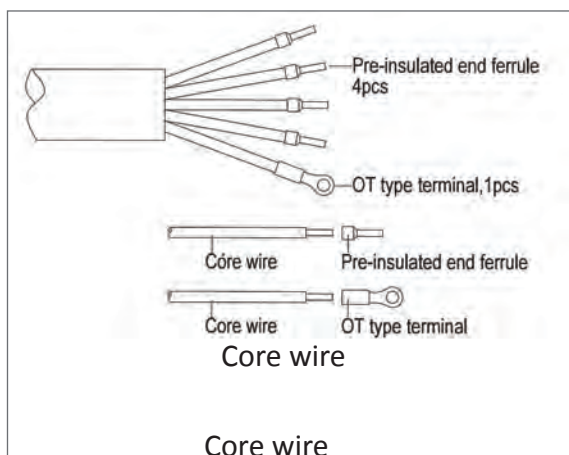

Figure 3-28 AC output and ground cable set up
(2) Connect the AC (L1, L2, L3, N) cables to the terminal block and use the OT type terminal to connect the ground cable to the internal grounding stud inside the wiring box. (See the 2nd graph in Figure 3-26). Set up the cables referring to Figure 3-28.